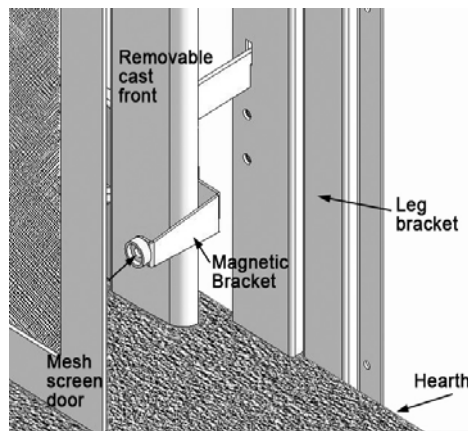

Fig 14, Magnetic bracket location for Traditional and Classic stone mantels (no spacer)
- no spacer required with the magnetic bracket when securing to the removable cast frame (fig 14).